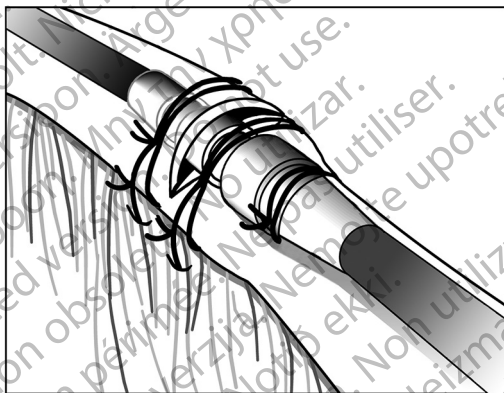

Figure 12. Example of suture sleeve, venous cutdown technique
3. Using the same groove, secure the lead and vein to the adjacent fascia (Figure 12 Example of suture sleeve, venous cutdown technique on page 27).